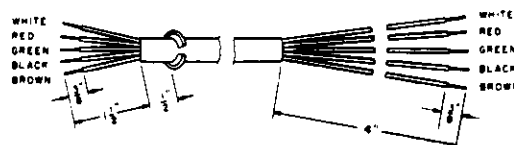

Figure 2. Cable Preparation.
6. Strip and trim phonograph end of 5-wire cable as shown in Figure 2. Connect cable to drive motor, ground screw, and to the 2-screw terminal board on the amplifier, see Figure 4.